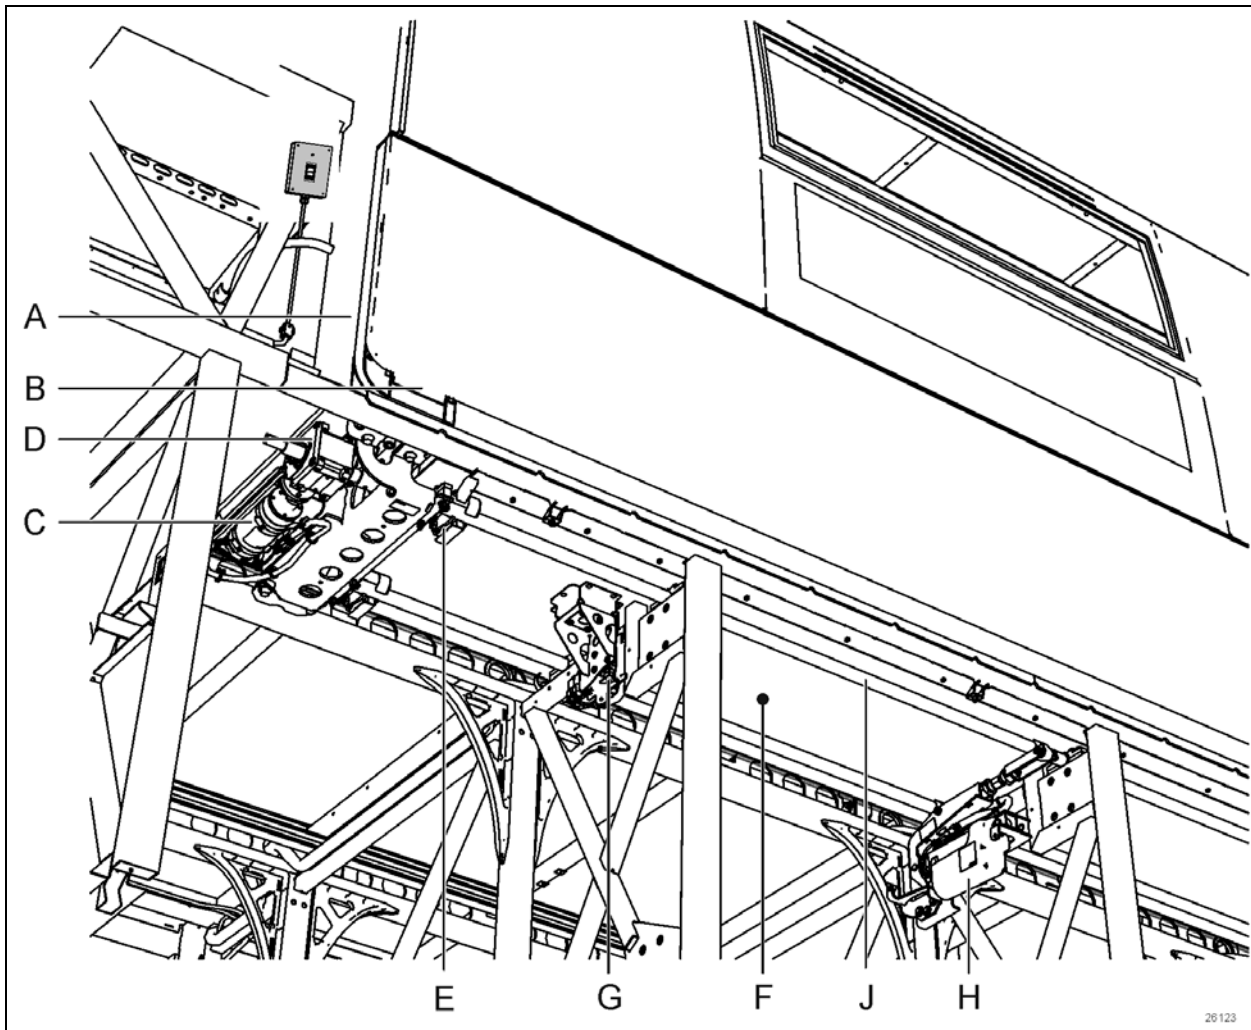
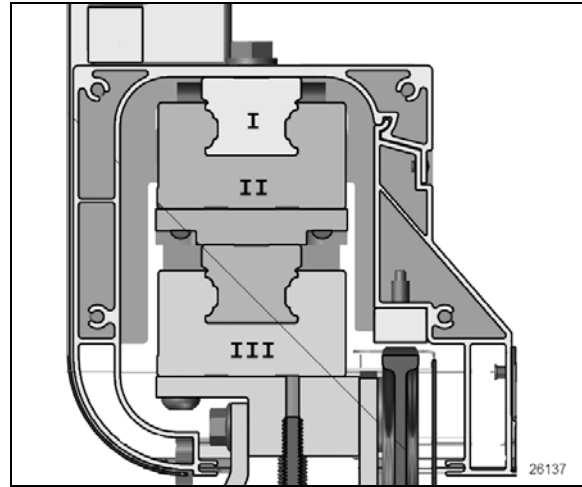

FIGURE 54: FLUSH FLOOR SLIDE-OUT MECHANISM OVERVIEW
FIGURE 59 LINEAR BEARINGS
Refer to images Figure 54 to Figure 59 above for the following descriptions.
The slide-out room is moved in and out on a pair of stacked linear bearings (Figure 59, Items I and III). Power comes from two synchronized electrical motor (C) oriented horizontally under each linear bearing assembly. The motor drives a right angle speed reducing gearbox (D).
Extension bearings and rail assemblies are stacked in pairs (Figure 59). The slide-out room structure is attached to the top rail (I). The top bearing is attached to the bottom rail (II). The bottom bearing is attached to the vehicle structure (III).